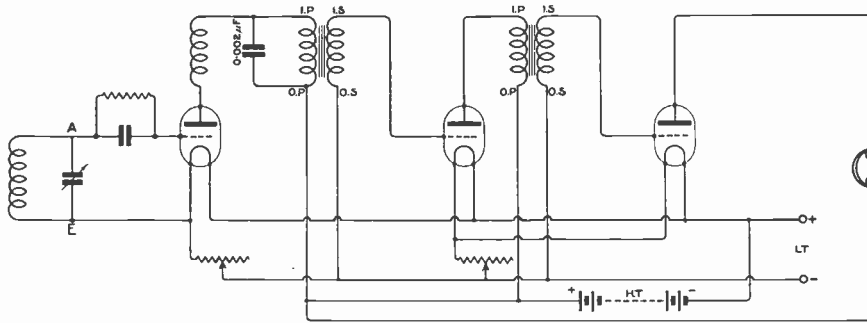

Fig. 8. Diagram of Apparatus used by T. Cutler.
*Apparatus used.*—A three-valve set, consisting of one detecting and two low-frequency valves, arranged as in Fig. 8, made up from the following